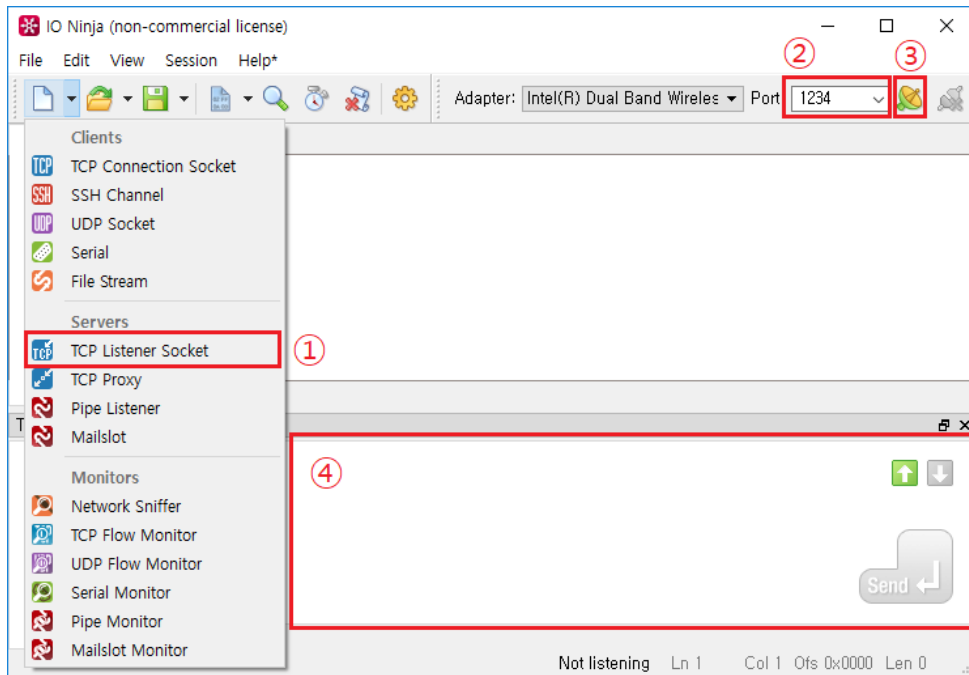

Figure 9: IO Ninja – TCP Server Socket Setting
- a. Select **TCP Listener Socket** (1, Figure 9).
- b. Enter the port number to be used (2, Figure 9).
- c. Click  to start to “Listen” (3, Figure 9).
- b. Send data (4, Figure 9).